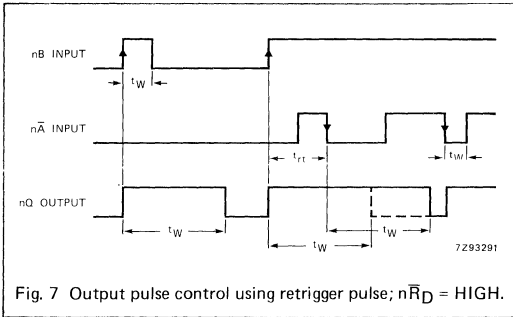
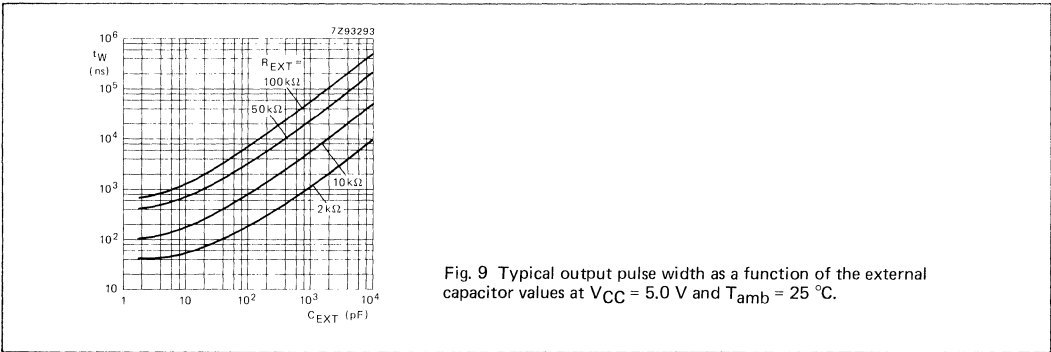

Fig. 7 Output pulse control using retrigger pulse;  $n\bar{R}_D = \text{HIGH}$ .
Fig. 9 Typical output pulse width as a function of the external capacitor values at  $V_{CC} = 5.0\text{ V}$  and  $T_{amb} = 25\text{ }^\circ\text{C}$ .
Figures 7 and 8 illustrate pulse control by reset. The basic output pulse width is essentially determined by the values of the external timing components  $R_{EXT}$  and  $C_{EXT}$ . For pulse widths, when  $C_{EXT} < 10\,000\text{ pF}$ , see Fig. 9. When  $C_{EXT} > 10\,000\text{ pF}$ , the typical output pulse width is defined as:
1. For other  $R_{EXT}$  and  $C_{EXT}$  combinations see Fig. 9.